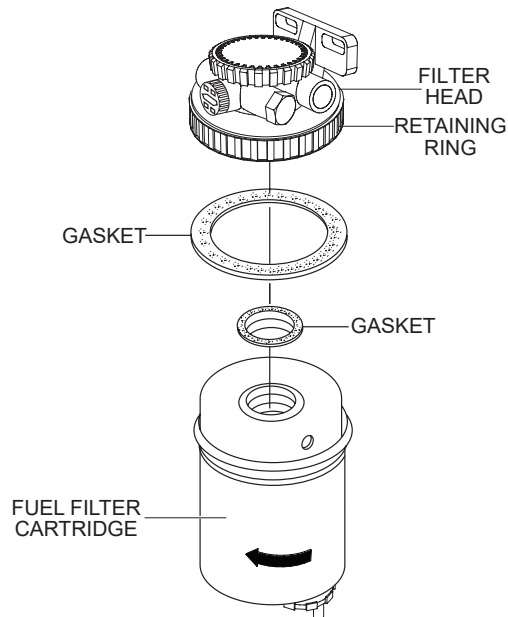

**Figure 62. Draining The Fuel Filter**
1. Loosen the **air bleeder plug** (Figure 62) on the fuel filter head.